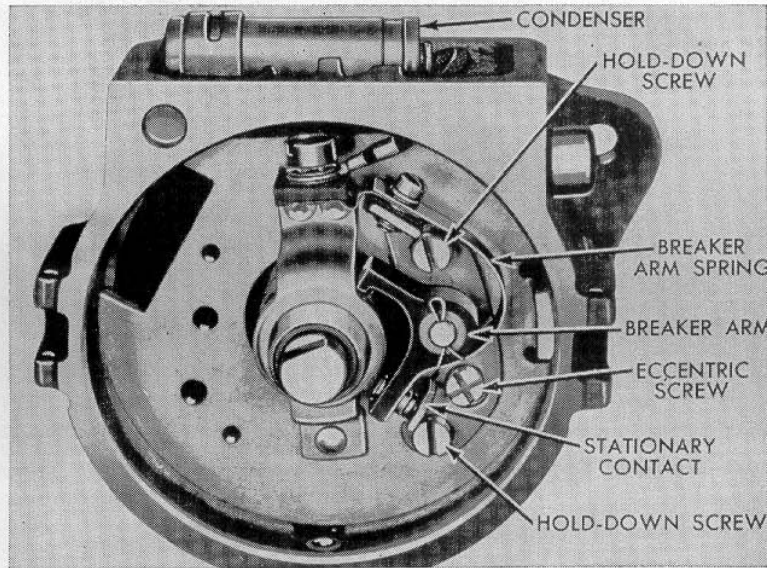
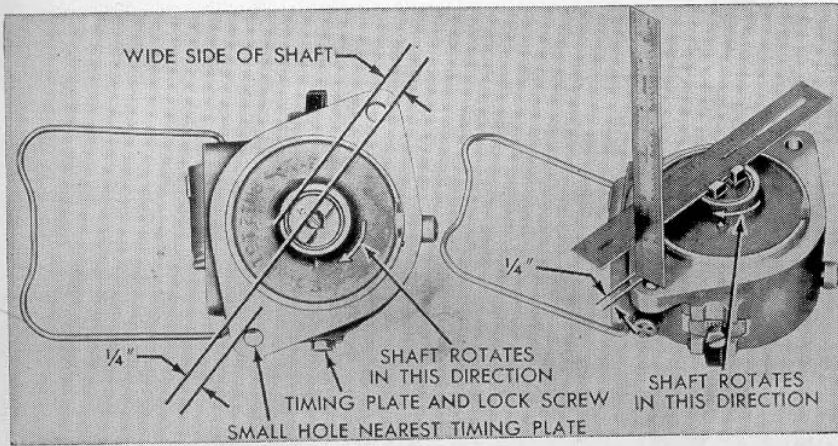

Fig. FO44—Distributor breaker contacts of Ford 9N12100 distributor used on models 2N, 9N and 8N prior to tractor serial 263844.
Fig. FO45—Distributor basic timing adjustment on models 2N-9N and 8N prior to tractor serial 263844.
54. On 2N, 9N and 8N tractors prior to serial 263844 the Ford 9N12100 battery ignition distributor is mounted on the front face of the timing gear cover directly in line with camshaft. Refer to Fig. FO44. In these installations the front end of the camshaft is slotted to receive a mating tang on the drive end of the distributor shaft. Spark timing at speeds above idling is controlled by
55. **TIMING TO ENGINE.** Adjust breaker contacts to .015 gap by loosening the two hold-down screws Fig. FO44 and turning the eccentric screw. Place a scale against the tang on the wide side of the distributor shaft as shown in Fig. FO45 then rotate the shaft until the scale is ¼ inch from the near edge of the small mounting hole as shown. With shaft in this position, the contacts should be just starting to open. Move the adjustment plate on the left side of the distributor down to advance the timing, up to retard the timing. If proper timing is not obtained on first attempt, turn shaft backward ½ turn to eliminate backlash, then repeat the check.
Loosen condenser lead and mounting screws and remove condenser. Pry out snap ring and remove breaker plate after lock screw is removed. Check distributor shaft fit in housing and breaker plate bracket, check condition of centrifugal advance mechanism, breaker contacts and condenser. Repair or renew parts where necessary and reassemble unit. Adjust breaker contact gap to .014-.016 and lubricate breaker point cam sparingly. See Fig. FO44.
is 1/4 inch from top side of small mounting hole as shown in Fig. FO45. When shaft is in that position, breaker contacts should start to open. Move timing plate and screw until contacts open properly.